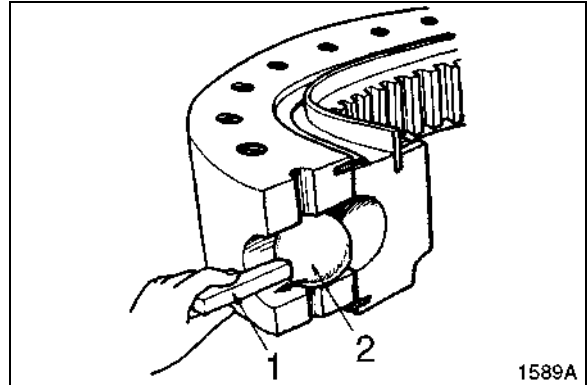

Figure 6
- Turn inner ring and use magnet bar (1, Figure 6) to remove steel balls (2).